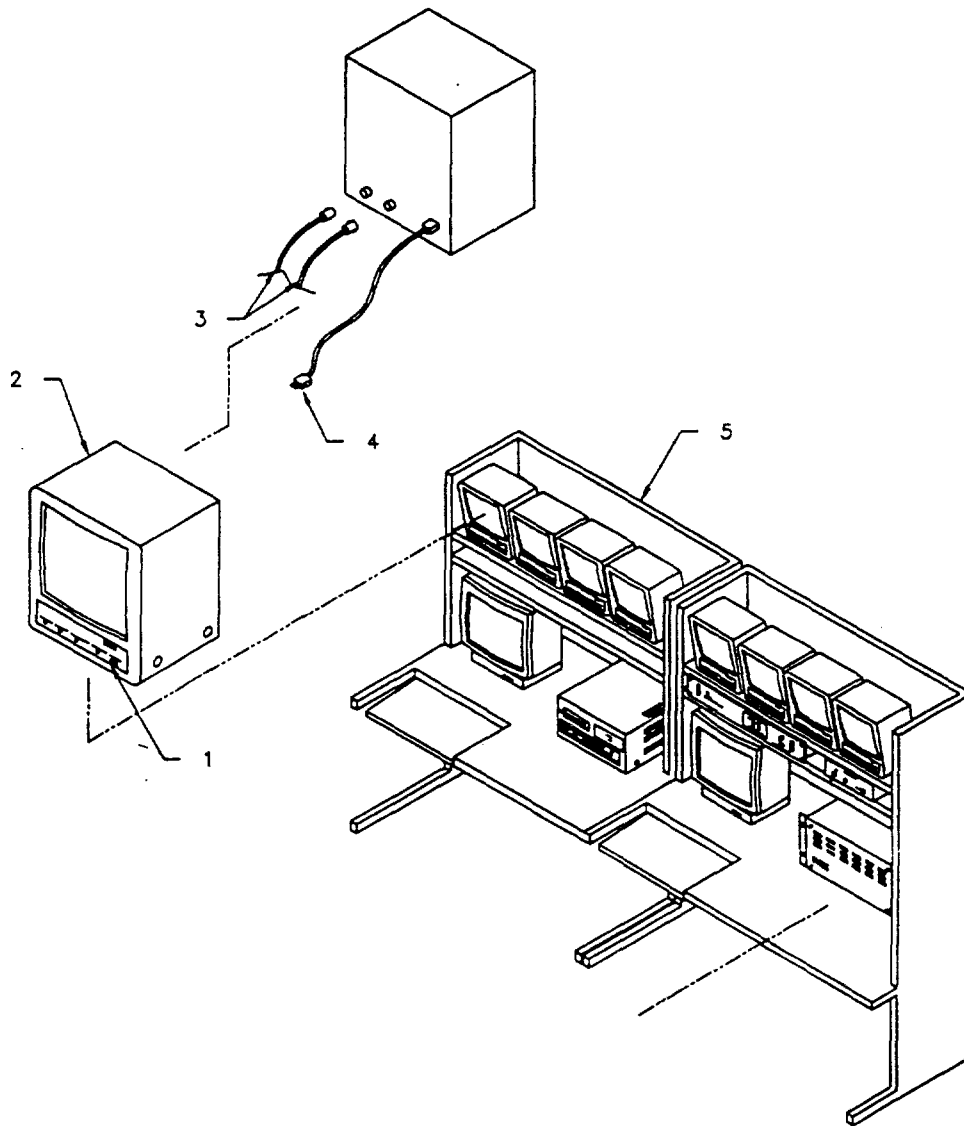

Figure 3-48. Removal and Replacement of CCTV Monitor
**3-95. REPLACE CLOSED CIRCUIT TV MONITOR. (See Figure 3-48).****This task consists of:****a. Remove****b. Install**